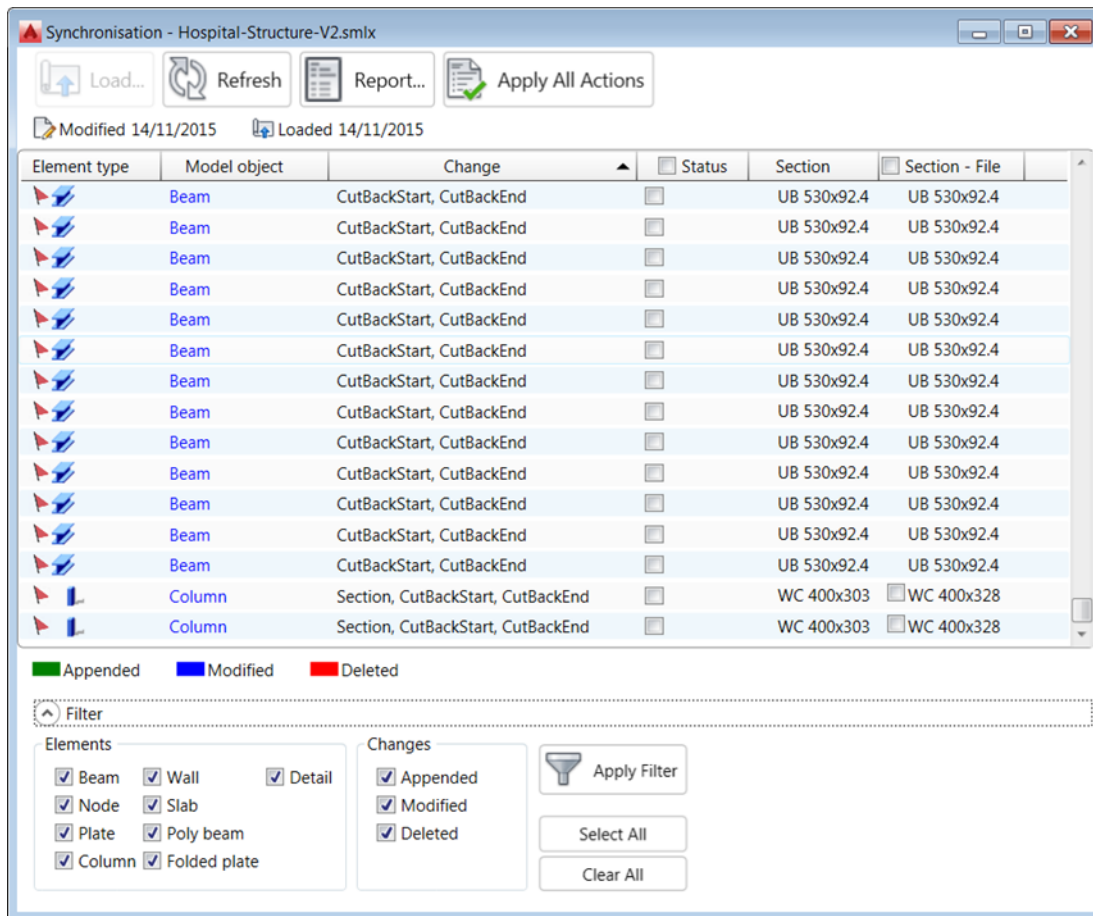

FIGURE 26: THE SYNCHRONIZATION DIALOG BOX SHOWING ALL THE CHANGES
3. Expand the dialog box by clicking on the **Filter** button on the lower left corner, as shown in Figure 26.